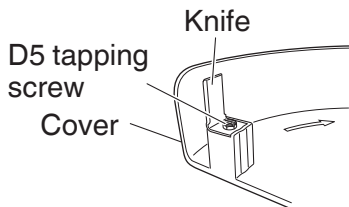

Fig. 7
2. Installing cover (See **Fig. 7** and **8**)
- (1) Use the supplied D5 tapping screw to install the knife in the cover. (**Fig. 7**)